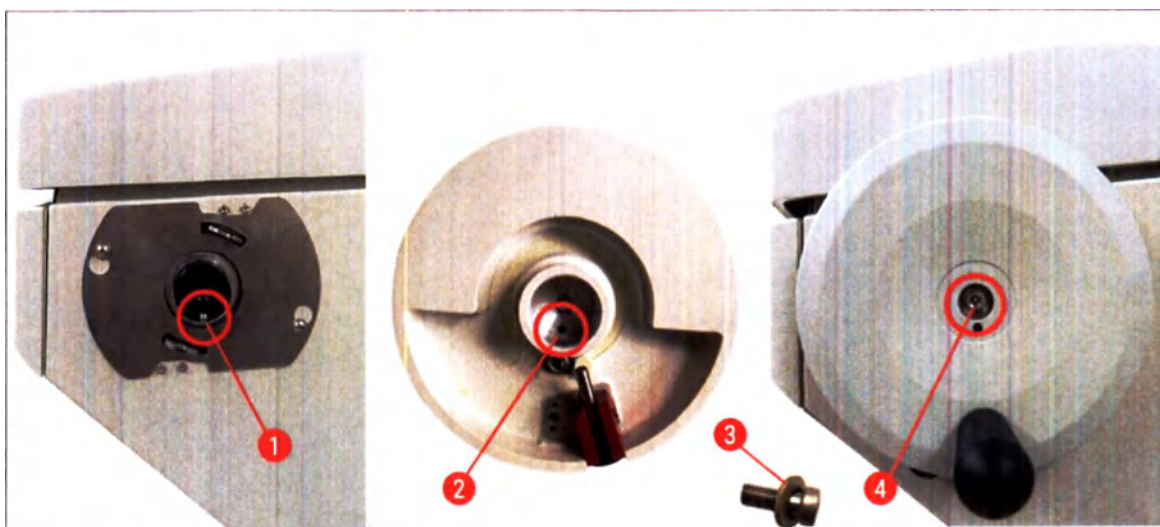

Fig. 9
2. Attach the spring washer (→ "Fig. 9-3") to the screw as shown in (→ "Fig. 9") (→ "Fig. 9-4").